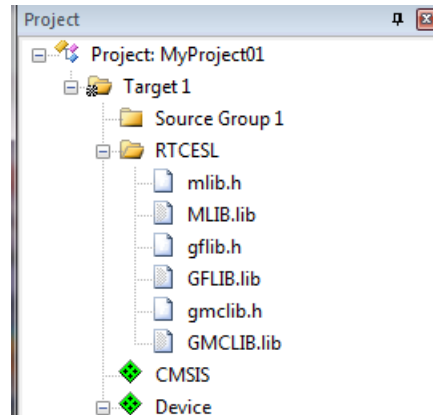

Figure 1-33. Project workspace
10. Now, all necessary files are in the project tree; see Figure 1-33. Click Close.